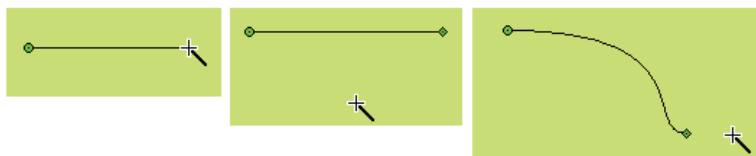
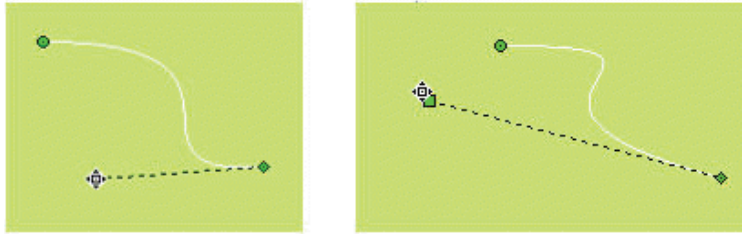

Figure 4-26: Drawing a curve/arc
Figure 4-27: Drawing a curve/arc
- At this moment, the mouse shape is still a cross. Move the mouse to another position where you want to set the end of the curve/arc, press down the left key of the mouse and drag the mouse to move in the screen. Then, release the mouse and right click it to complete the drawing process. See Figure 4-26.
- As shown in Figure 4-26, in the curve drawn the starting point is a green dot and the ending point is a diamond dot. This indicates that a curve/arc has been preliminarily drawn. Move the mouse to the starting point or the ending point, a dotted line will appear. The ending point of the dotted line is a square dot. Move the mouse to this dot, and then the mouse will become , press down the left key of the mouse, move it to an appropriate position, and release it to get desired radian. In addition, you can also move the starting point or the ending point to an appropriate position. See Figure 4-27.